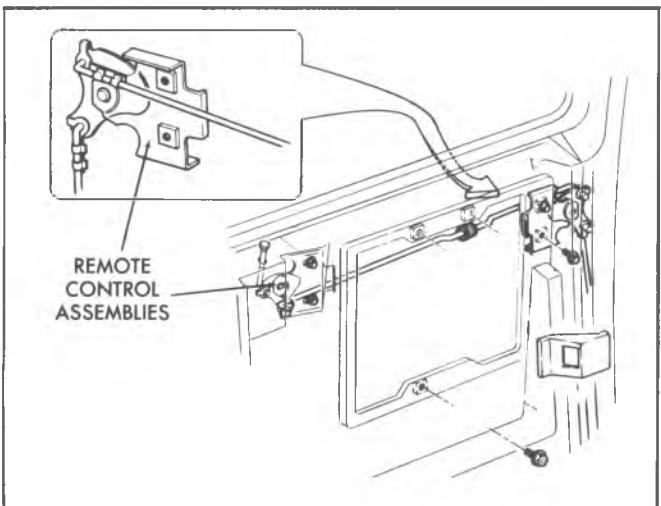

Fig. 42—Remote Control Assembly
**Remote Control—Fig. 42****Replacement**